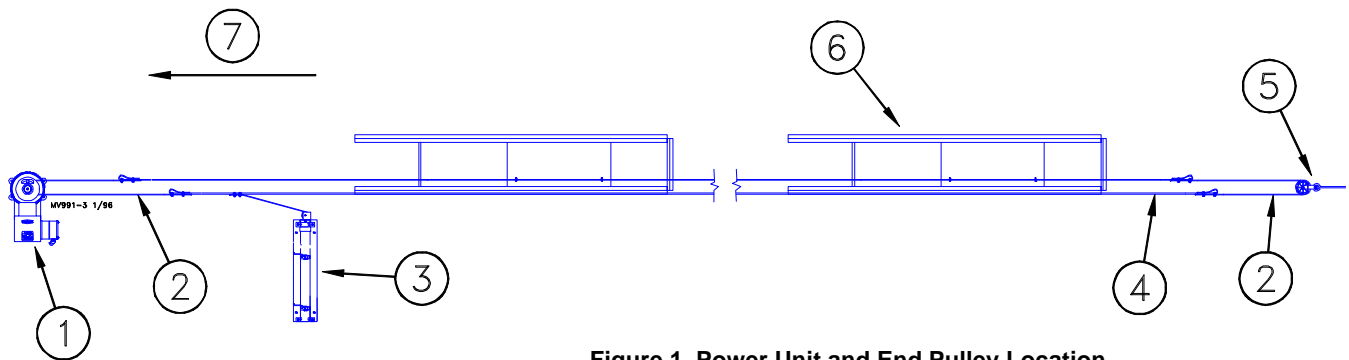

Figure 1. Power Unit and End Pulley Location
1. Locate the power unit and end pulley as shown in **Figure 1**.
5. Run the wire and cable as shown in **Figure 1**. Leave enough cable to prevent the cable clamps from hitting the end pulley when the inlet doors are opened or closed.